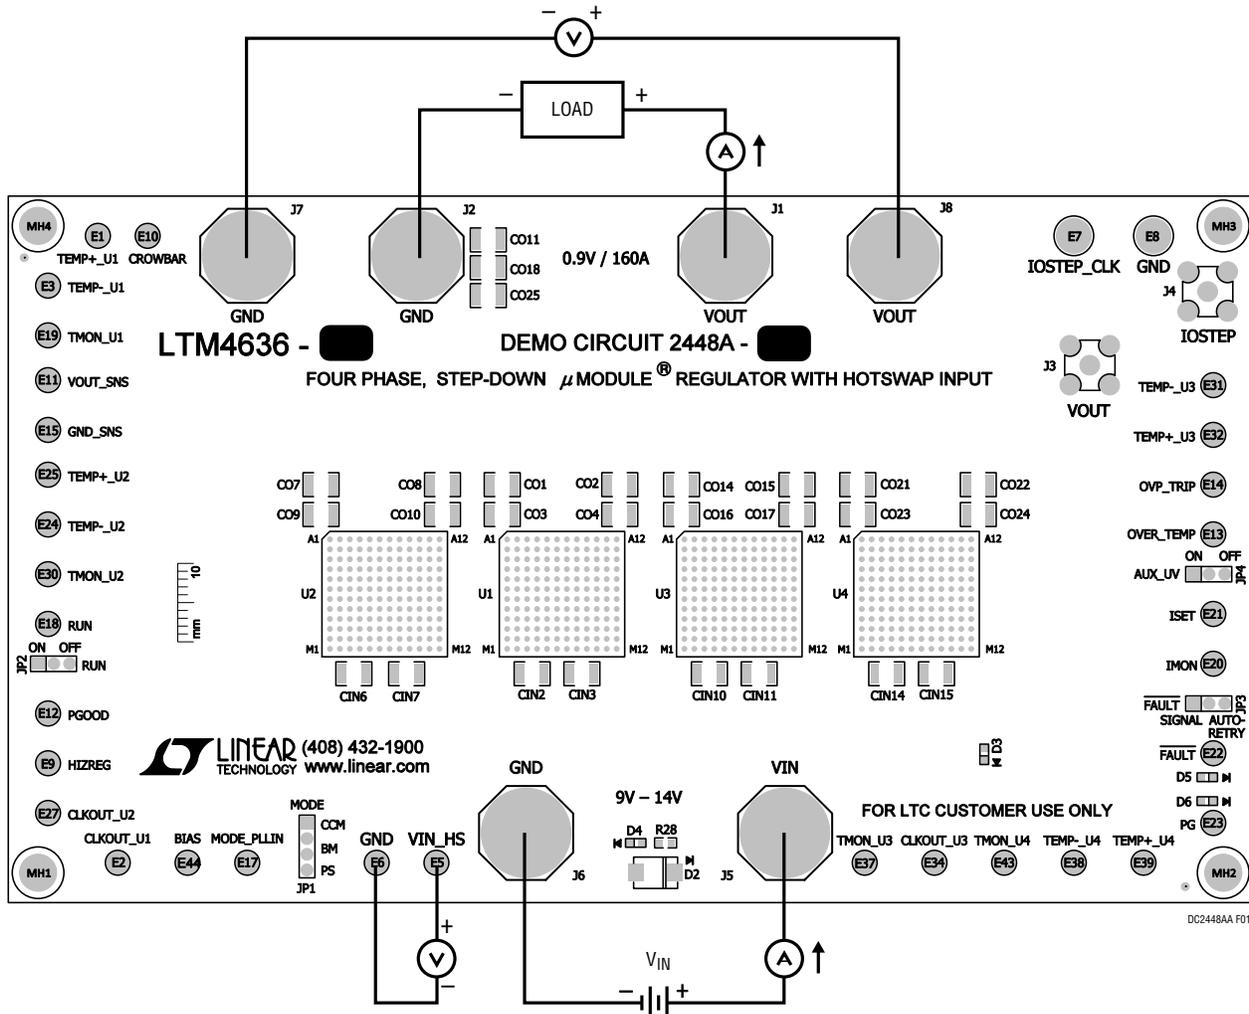

Figure 1. Measurement Setup of DC2448A-A
Demonstration circuit DC2448A-A is an easy way to evaluate the performance of PolyPhase operation of the LTM4636EY. Due to the high input/output current, the user should select the proper input supply/load/cable which can sustain the full load operation. Please refer to Figure 1 for proper measurement equipment setup and follow the procedure below:
2. With power off, connect the input power supply, load and meters as shown in Figure 1. Preset the load to 0A and  $V_{\text{IN}}$  supply to 12V.